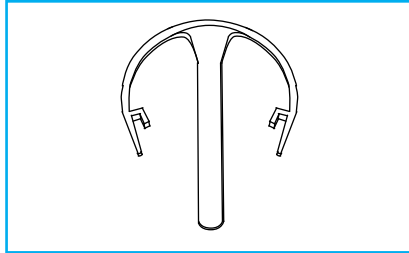

Fig.56
- B. On flanged installations remove the trim assembly using the supplied tool *"Fig.56"*, reference section F.1.
- I. Install trim assembly if removed using the supplied tool *"Fig.56"*, reference section F.1. Raise LED engine into the trim aperture and push up until it clicks into place.
- D. On flanged installations remove the trim assembly using the supplied tool *"Fig.56"*, reference section F.1.